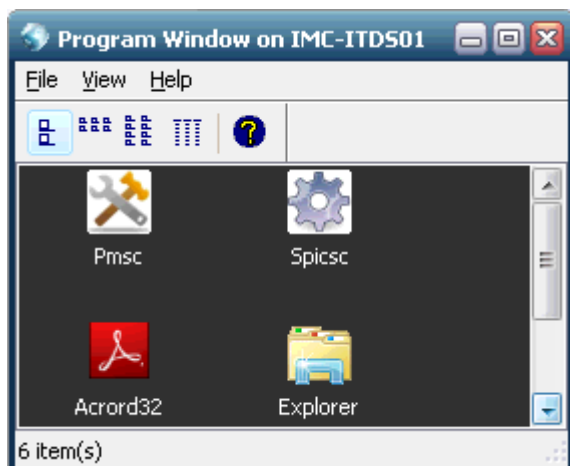

Fig.3-1-5 Program Window on IMC-ITDS01
- (1) Double-click "Pmsc" icon on "Program Window on IMC-ITDS01" (Fig.3-1-5).
- (2) "CMAXS-AD PMS[Login]" screen is displayed.